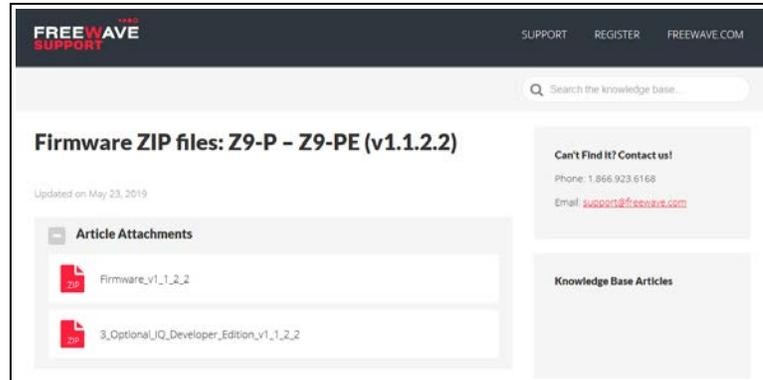

Figure 14: Firmware ZIP files window with the selected `Firmware_v1_1_2_2` Attachment
8. Select and click the **Firmware_v1_1_2_2** attachment. Figure 14